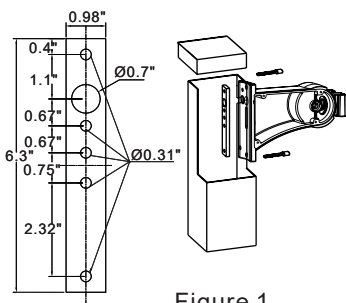
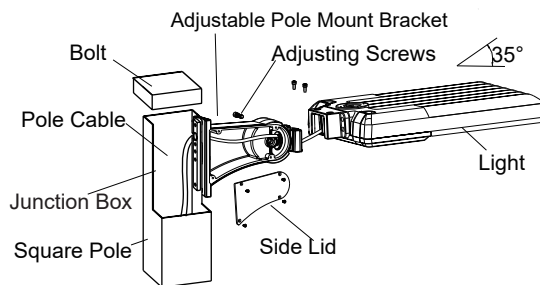

Figure 1
Figure 2
- Step 1: Attach adjustable pole mount bracket to square pole with bolt. (Figure 1)
Step 2: Feed supply wires from inside the pole through the mounting bracket base. Put the connected wire into Pole, connect the wire properly and cover the junction box. (Figure 2) Notice: Adjustable angle is 0-35°(Figure 1).